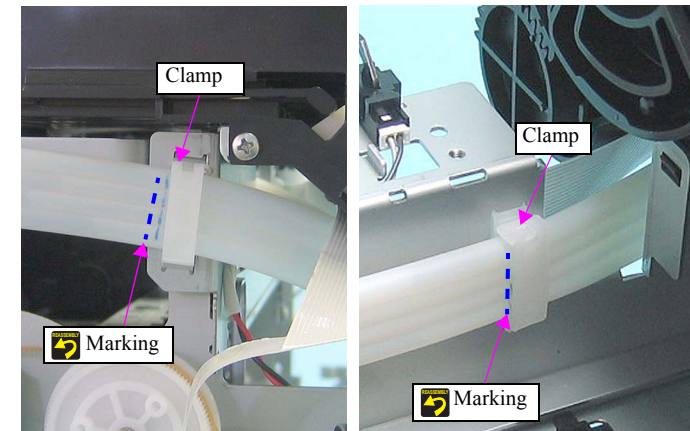

Figure 4-79. Removing the IC Holder Assy (4)
- Align the clamp that secures the Ink Tube with the marking on the Ink Tube. See Figure.4-79.